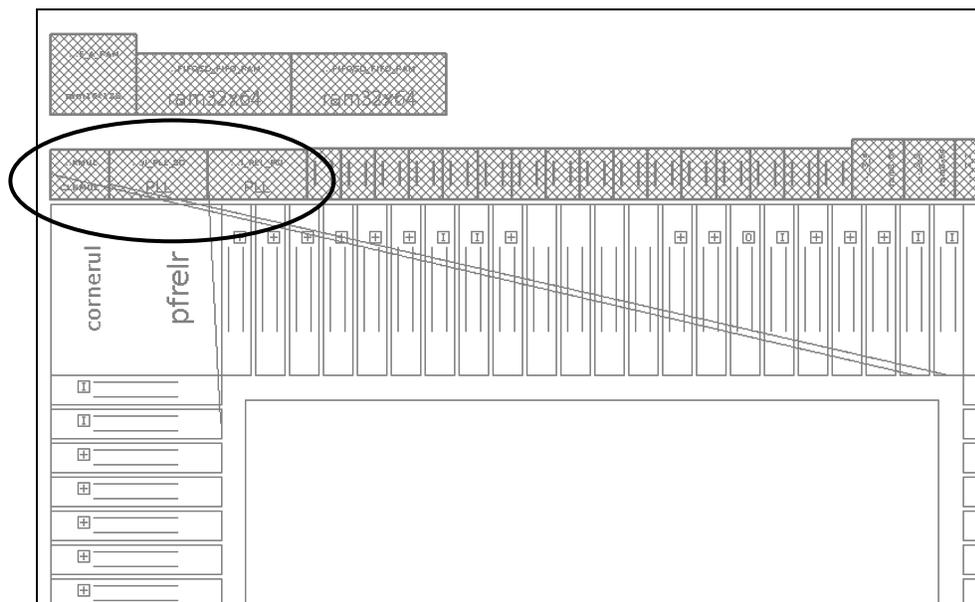

Figure 1. Flylines of the IO ↔ macro connections.
- Zoom in to see the top periphery area shown in **Figure 1** below.